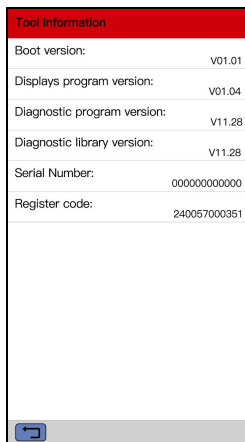

Figure 7-3
**Note:** You are strongly recommended to note down the Serial Number and Register Code in Figure 7-3 since these 2 pieces of information are required while registering your Millennium HD Pro.